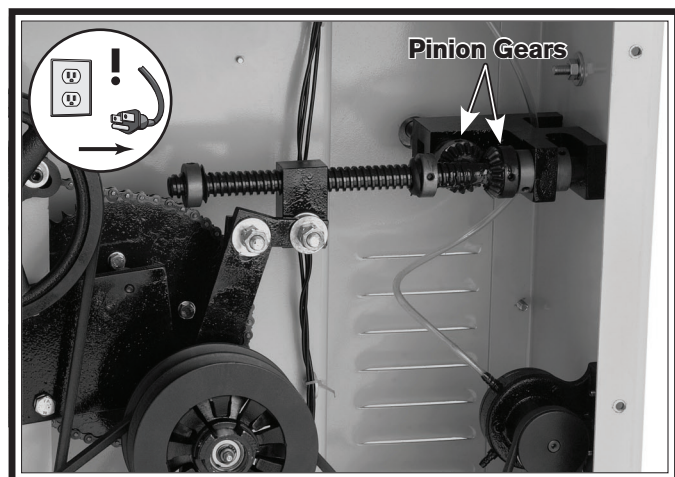

Figure 44. Location of pinion gears.
2. Remove the rear lower access panel, and use a 4mm hex wrench to loosen both pinion gear locking set screws (**Figure 44**) just enough to adjust the pinion gears.